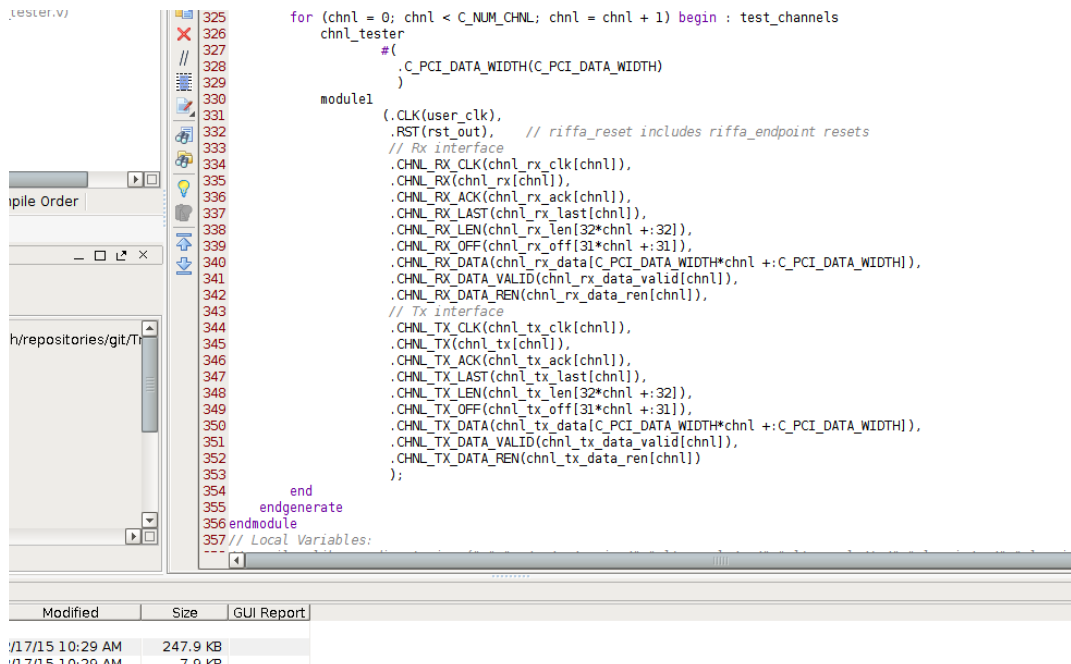

Figure 4.3: Project Splash Screen for 7Series Integrated Block for PCI Express Projects
6. The example design uses the *chnl_tester* (shown in Figure 4.3, which works with the example software in the *source/{C-C++,Java,python,matlab}* directories. Replace the *chnl_tester* instantiation with any user logic, matching the RIFFA interface.